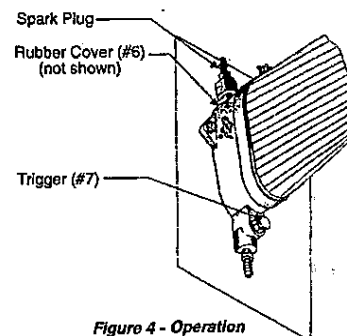

Figure 4 - Operation
2. Insert the Spark Plug, electrode side down, into the RUBBER COVER (#6) at the top of the unit (Figure 4). Using a clockwise twisting action as you insert the plug will assist in getting it fully in place.